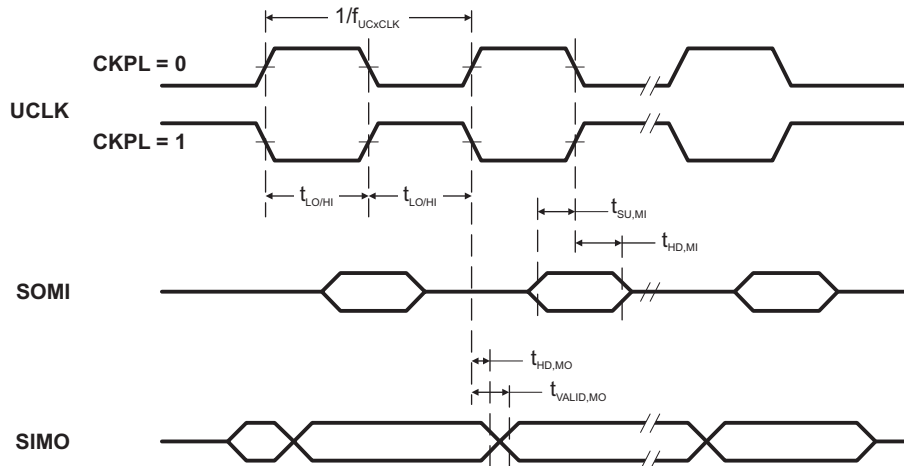

Figure 12. SPI Master Mode, CKPH = 0
(see Figure 12 and )
- (2) Specifies the time to drive the next valid data to the SIMO output after the output changing UCLK clock edge. See the timing diagrams in Figure 12 and .
- (3) Specifies how long data on the SIMO output is valid after the output changing UCLK clock edge. Negative values indicate that the data on the SIMO output can become invalid before the output changing clock edge observed on UCLK. See the timing diagrams in Figure 12 and .